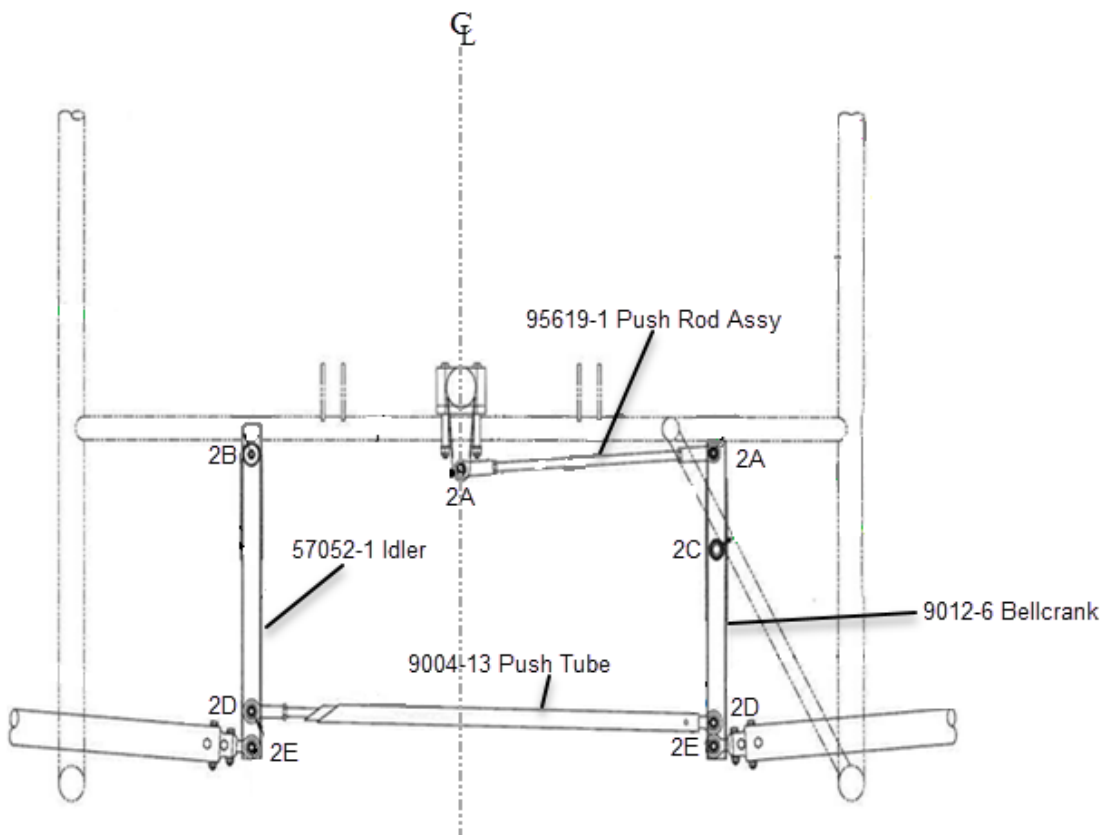

Figure 45-10
- a. Remove existing hardware at 95619-1 Push Rod, 57052-1 Idler, 9004-13 Push Tube, and 9012-6 Bellcrank attach points. See Figure 45-10.
- a. Remove 901-22 Push Tube and replace with 95619-1 Push Rod Assembly. See Figure 45-10.
3. Install new hardware. See Figure 45-10 and Table 45 A. Torque hardware per Appendix B Torque Chart.